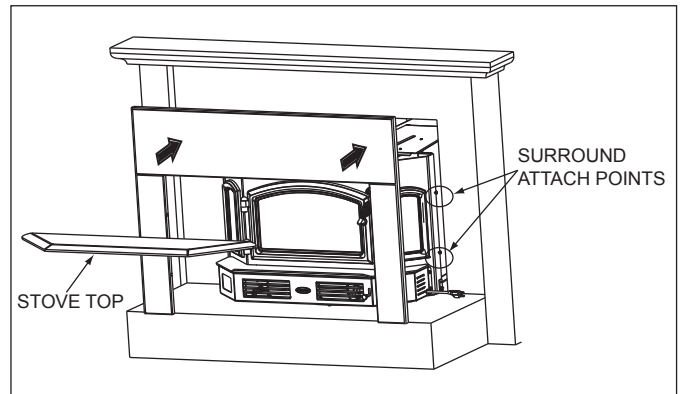

Figure 41.3
6. Install the surround set and trim set to the outer can. Place the hook in the surround sides over the surround attachment screws, 2 on each side. **Figure 41.3.**